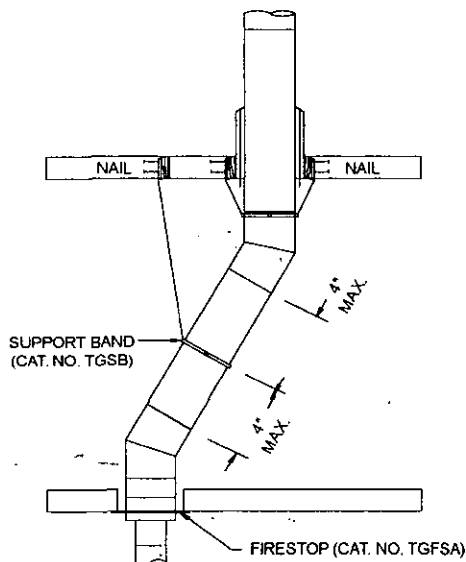

FIG. 18
2. Attach the elbow to the chimney pipe or other support part and twist to lock. Using the offset chart, add chimney sections between elbows. A support band (TGSB) is required at the upper elbow of the pair to support the load, as shown in Figure 18. Attach the upper elbow to bring chimney back to vertical.